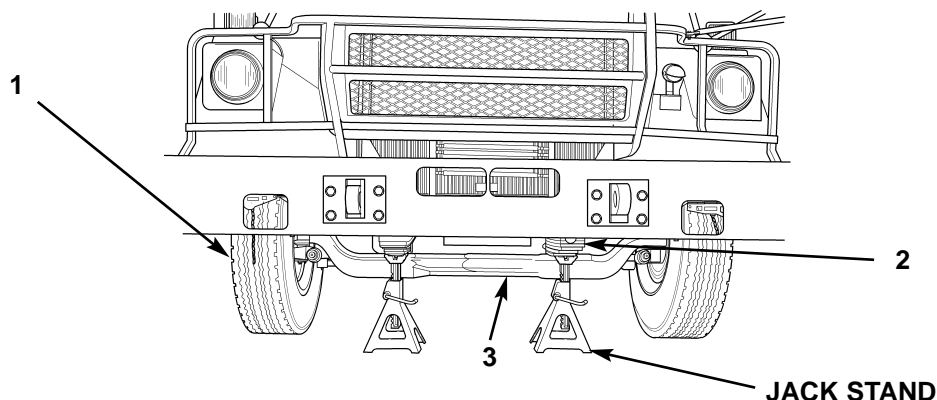

Figure 4. Jacking Front Axle.
6. Position suitable floor jack under center of front axle beam (figure 4, item 3), and raise front axle beam (figure 4, item 3) until tires (figure 4, item 1) are approximately 1 in. (25.4 mm) off ground.
7. Position jack stand under first leaf spring (figure 4, item 2) at each side of front axle beam (figure 4, item 3), and lower front axle beam (figure 4, item 3) making sure tires are still off ground when fully supported on jack stands. Remove floor jack from under truck.